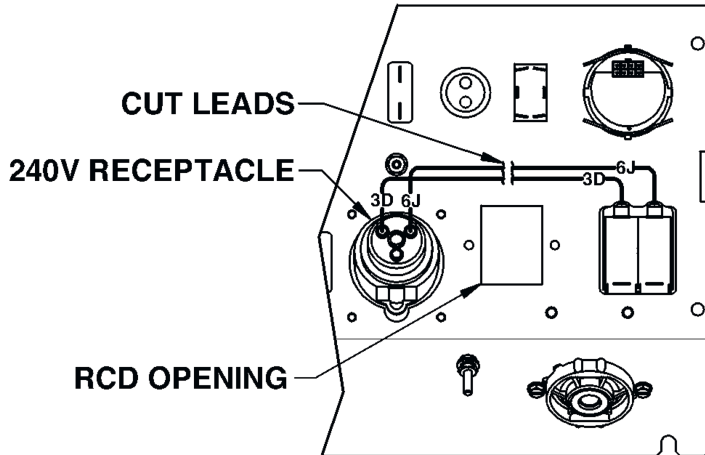

FIGURE 2
4. LOCATE LEADS 3D & 6J. (SEE FIGURE 2). CUT BOTH LEADS AS SHOWN.